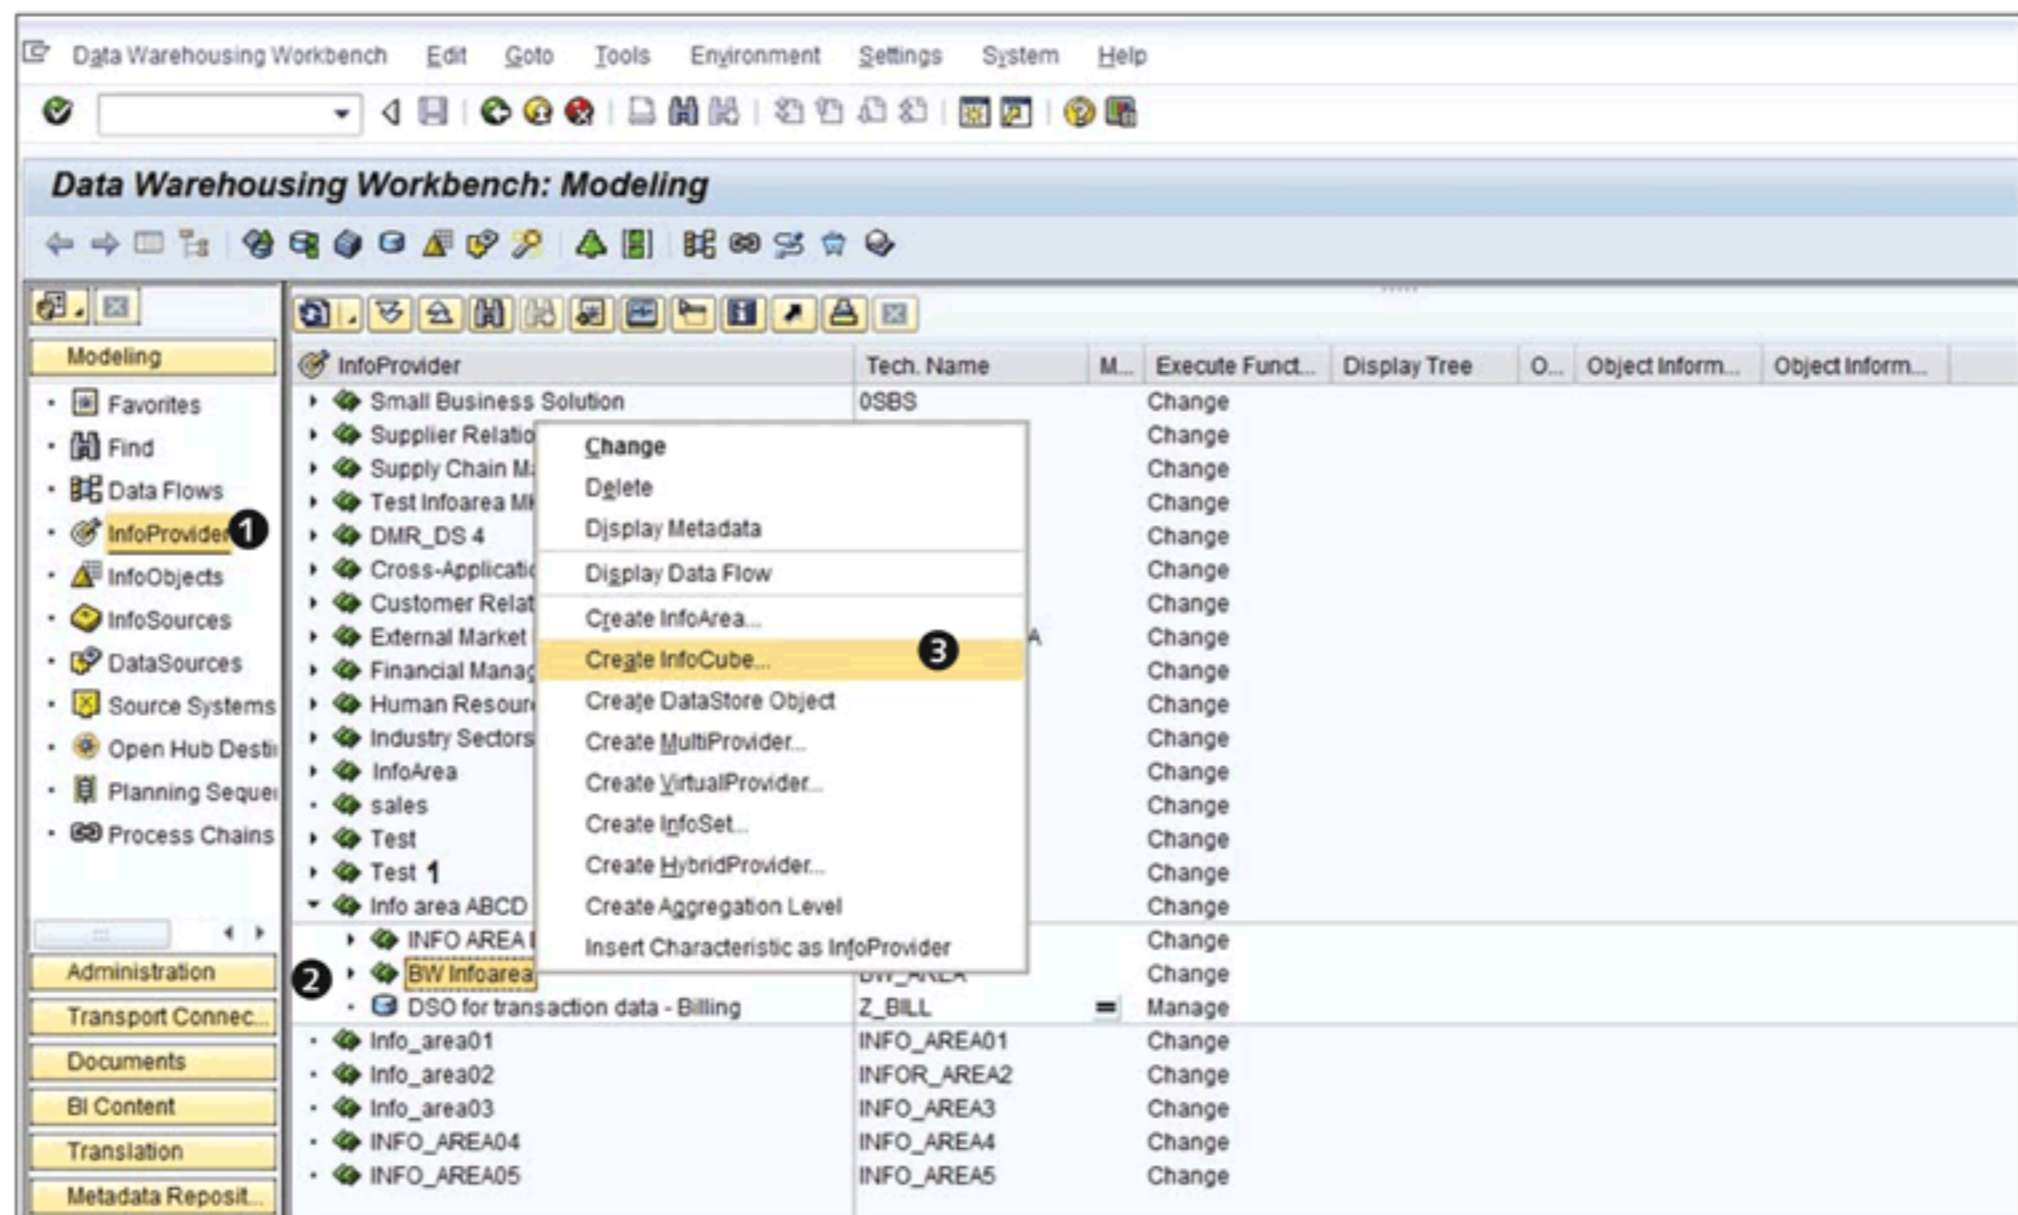

Figure 5.7 Create an InfoCube
InfoCubes are created in the DWW, which is started using Transaction RSA1. Select the INFOPROVIDER under MODELING from the navigator section, as shown in ❶ of Figure 5.7.